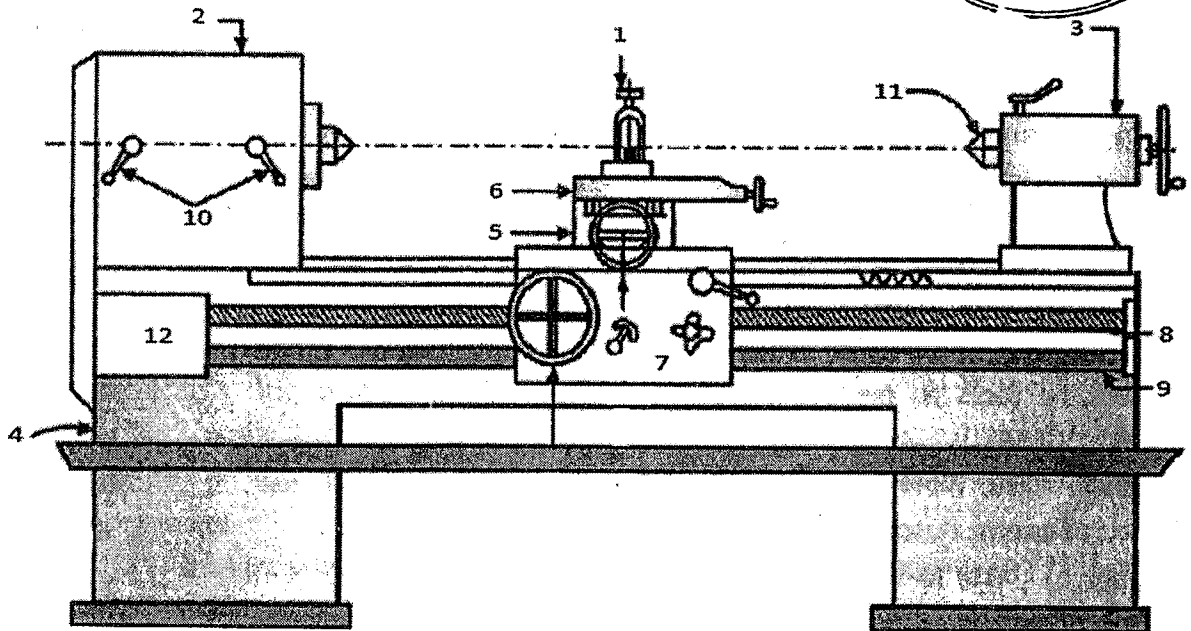

Fig.01
a. Name the parts of the lathe machine shown in Fig.01